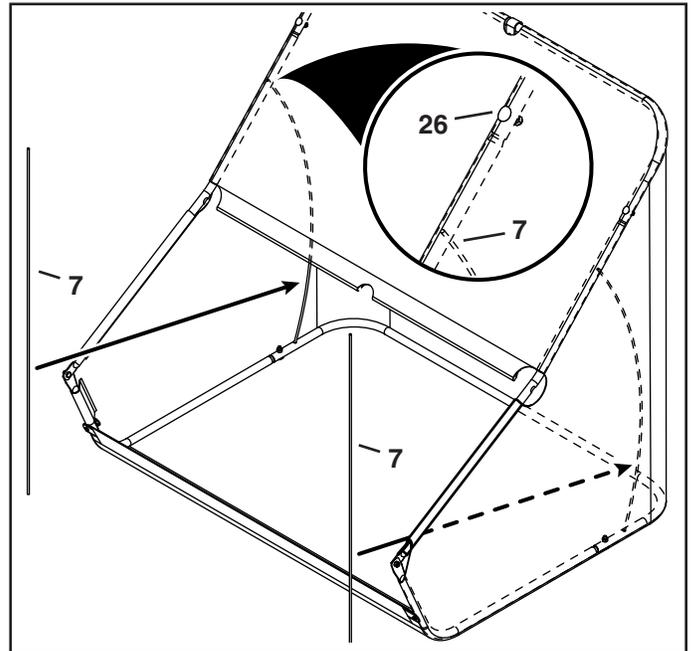

FIGURE 15
26. Insert the hopper support rods (7) into the hole beneath the curved head bolt (26) in each upper hopper tube. Flex and insert the rod into the hole in the bottom rear hopper tubes as shown in figure 15. **NOTE:** The hopper support rods will flex about as much as shown in figure 15 when they are assembled.